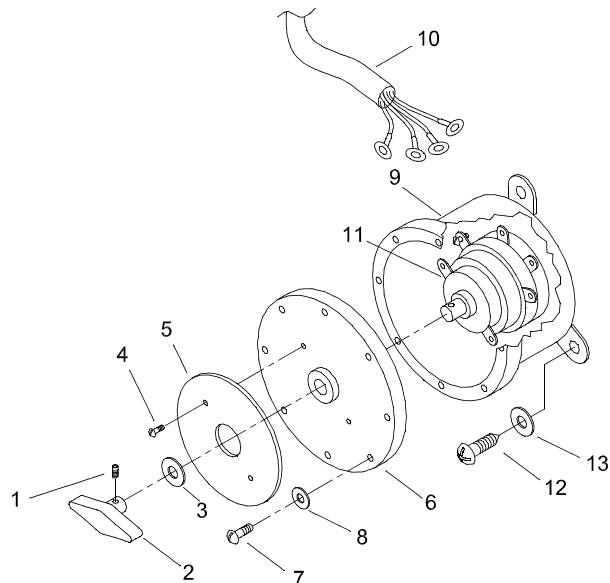

Figure 2. Rotary Brass Light Switch
2. Loosen screw (figure 2, item 1) and remove light switch knob (figure 2, item 2) and washer (figure 2, item 3).
3. Remove two pan head screws (figure 2, item 4) from faceplate (figure 2, item 5).
4. Remove faceplate (figure 2, item 5) from light switch cover (figure 2, item 6).
5. Remove four pan head screws (figure 2, item 7) and four washers (figure 2, item 8) from light switch cover (figure 2, item 6).
6. Remove switch cover (figure 2, item 6) from light switch enclosure (figure 2, item 9).
7. Label and disconnect wiring (figure 2, item 10) from light switch assembly (figure 2, item 11).
8. Remove wiring harness (figure 2, item 10) from light switch enclosure (figure 2, item 9).
9. Remove three phillips quickscrews (figure 2, item 12) and three washers (figure 2, item 13) securing light switch enclosure (figure 2, item 9) to wall.
10. Discard light switch enclosure (figure 2, item 9).
11. Position new light switch enclosure (figure 2, item 9) and install three phillips quickscrews (figure 2, item 12) and three washers (figure 2, item 13) to secure light switch enclosure (figure 2, item 9) to wall. Tighten phillips quickscrews (figure 2, item 12).
12. Install wiring harness (figure 2, item 10) in light switch enclosure (figure 2, item 9).